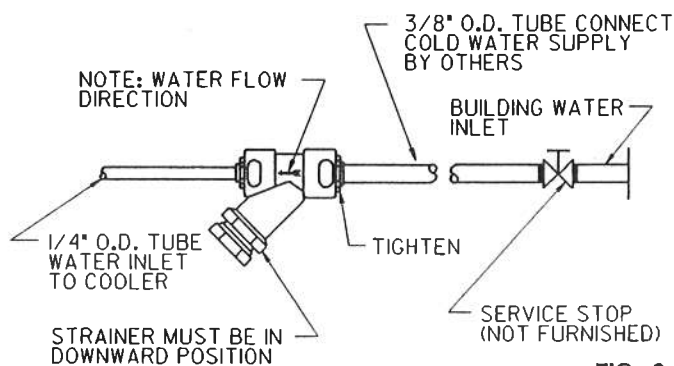
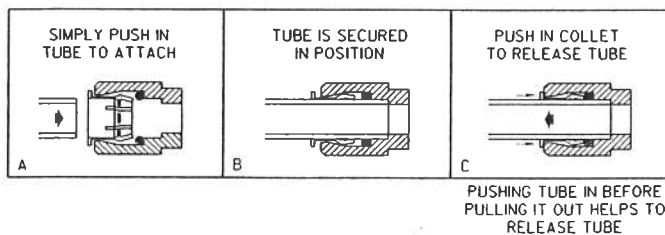

FIG. 2
FIG. 3
2. Water supply 3/8" IPS. Waste 1-1/4" IPS. Contractor to supply waste trap and service stop valve in accordance with local codes. (See Page 2, Fig. 2)
5. Loosen the two (2) screws holding the lower front panel at the bottom of cooler base and two (2) screws at the top. Remove the front panels and set aside.
6. Install a 3/8" O.D. water line between the service stop valve and cooler. Remove burr from outside of water line. Remove Y-strainer which is taped to the water inlet tube on cooler. Loosen nut on inlet side of Y-strainer and insert 3/8" O.D. water line to positive stop approx. 3/4 inch. Finger tighten nut to lock tubing in place (see Fig. 2 and Fig. 3).
NOTE: Y-Strainer is not used on units with filter, simply insert 3/8" water inlet into fitting on filter head until a positive stop is reached approximately 3/4" (See Fig. 2).